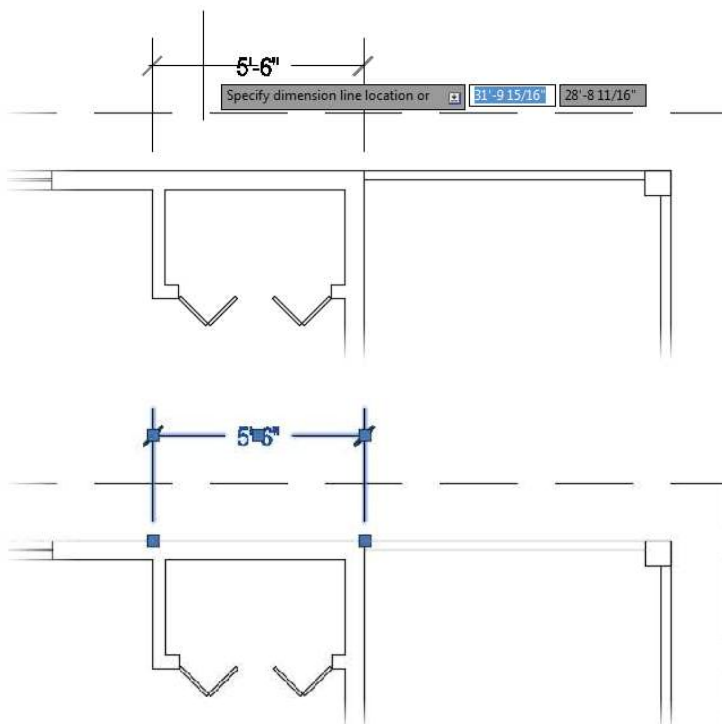

FIGURE 12.16: The dimension attached to the cursor (top) and the grips associated with a dimension (bottom)
5. At the Specify dimension line location or: prompt, click a point above the roofline to place the dimension in the drawing (see the top of Figure 12.16).
The dimension becomes dashed, and five grips appear (see the bottom of Figure 12.16).